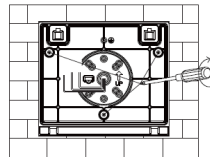

Fig. 2.3
3. Using the KWP-BKPL (sold separately) use an electric drill to drill the mounting holes on the back plate. Affix the back plate with screws (Fig 2.3).